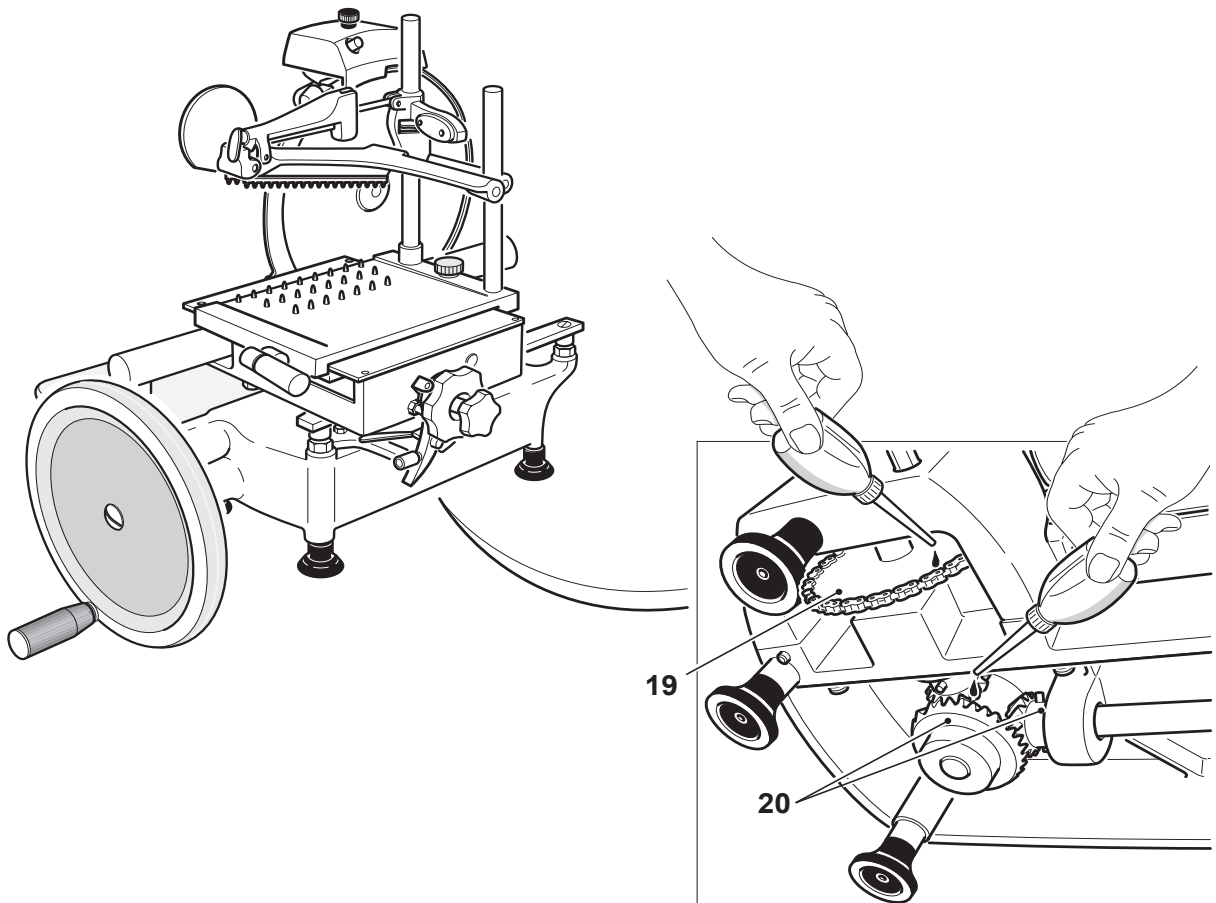

Figure 25-1
1. Lift the slicer and apply 3 to 4 drops of the supplied lubricant to the oil chain (19) and bevel gears (20) (Figure 25-1).